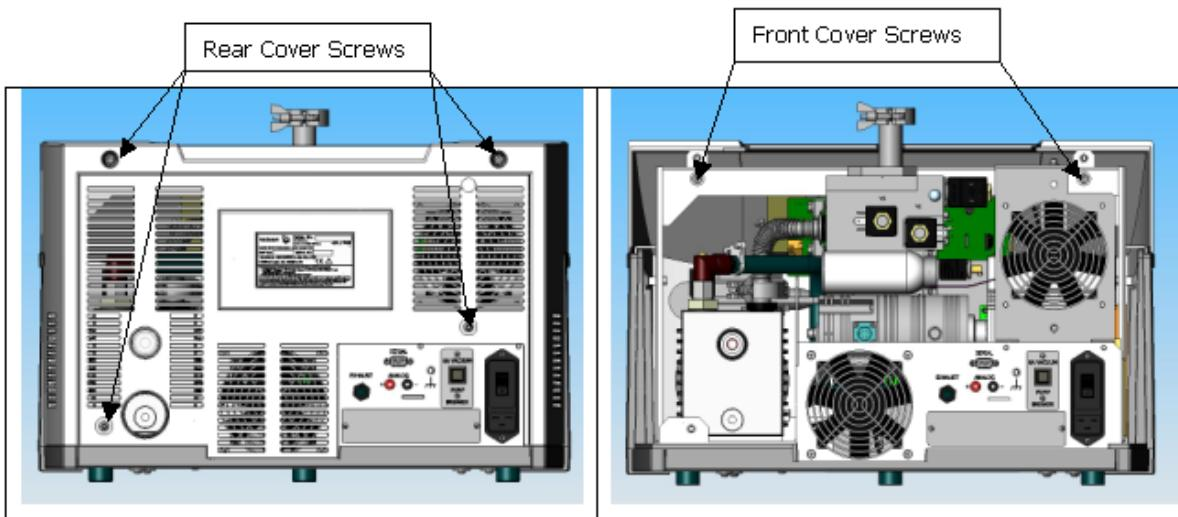

Figure 1: Rear and Front Cover Screws
3. Using an extended length M5 Allen wrench, remove the four screws holding the rear plastic cover ("Figure 1: Rear and Front Cover Screws") and detach the rear plastic cover from the unit.
4. Remove the four screws holding the front plastic cover and detach the cover from the unit. Two screws are situated at the front of the unit (not shown) and two screws are positioned inside the unit ("Figure 1: Rear and Front Cover Screws").